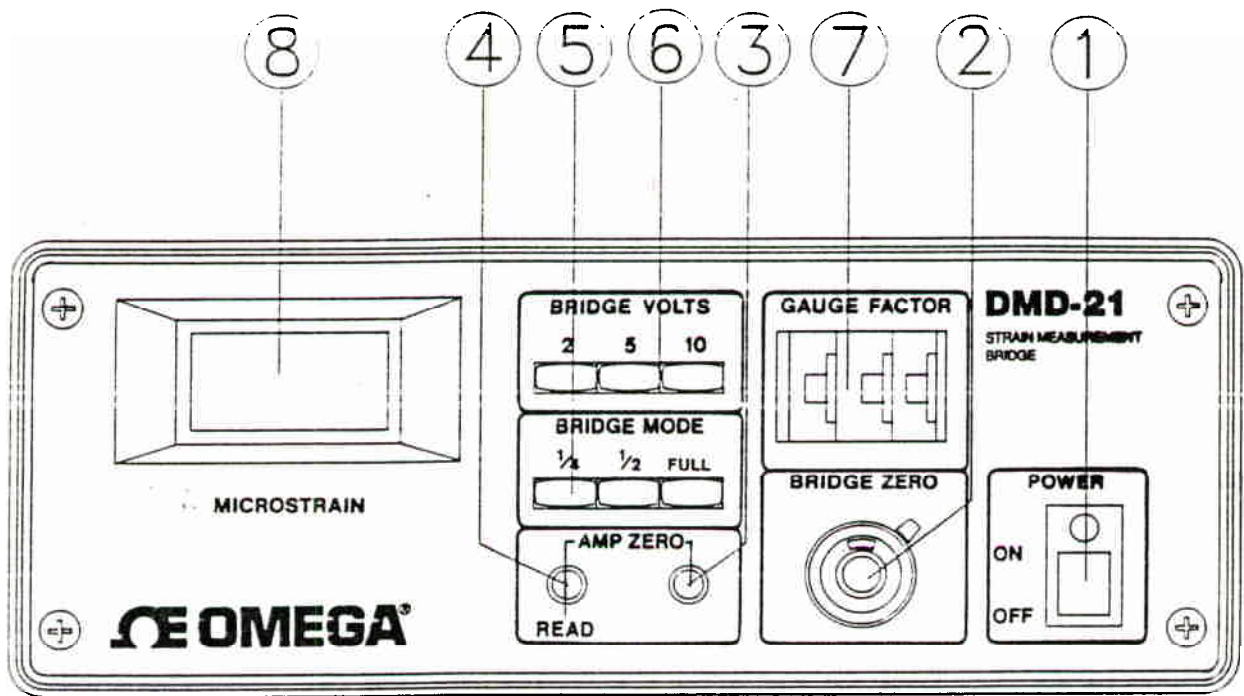
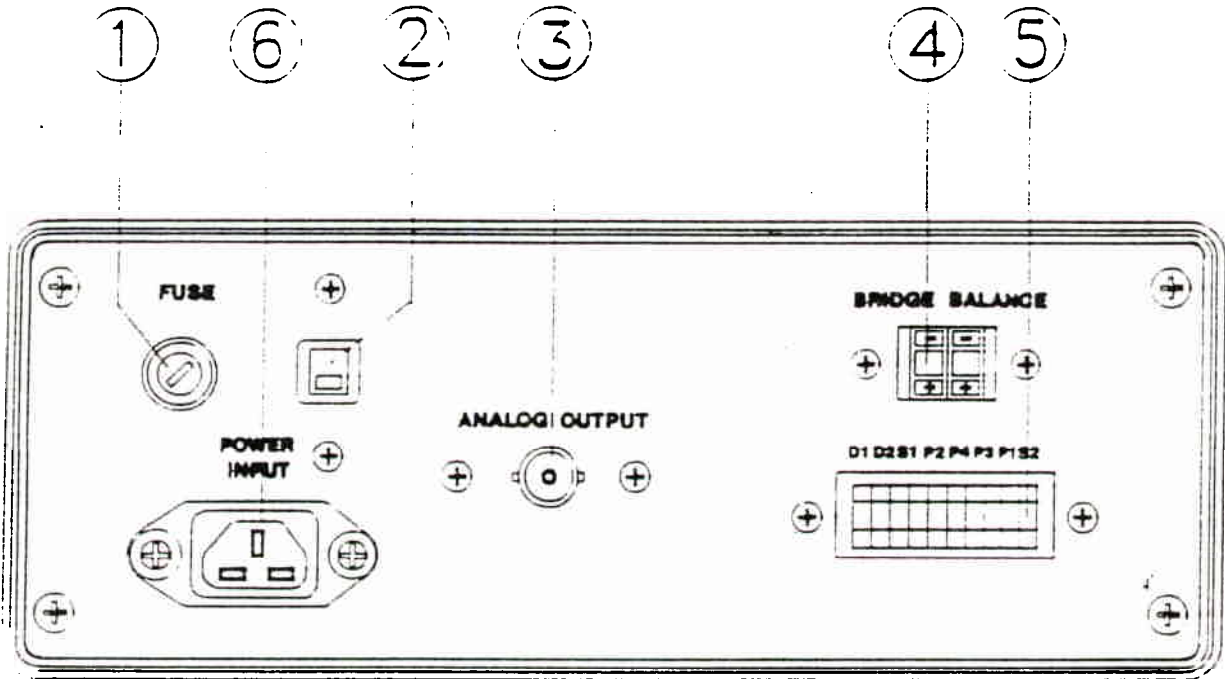

Figure 3-1. Front of the DMD-21
Figure 3-2. Rear of the DMD-21
The OMEGA DMD-21 Digital Strain Indicator, which operates on either 115VAC or 230VAC, is a single input meter which may be used for  $\frac{1}{4}$ ,  $\frac{1}{2}$ , or full bridge inputs. Readings are given directly in microstrains on the  $4\frac{1}{2}$  digit display. The front panel gage factor dial covers the range of gage factors likely to be encountered in use, but gage factors outside this range maybe easily accommodated by setting the gage factor to 2.00 and calculating the strain (see Section 4). A Precision Two-State Zero Adjustment is provided ensuring ease of zero setting together with ease of re-setting for subsequent tests. An analog output is provided on the rear panel for connection to a recorder. Refer to Figure 3-2 in Section 3.2.
Figure 3-1 shows the front of the DMD-21. Following the figure is a description of each part of the strain indicator.
Figure 3-2 shows the rear of the DMD-21. Following the figure is a description of each part of the strain indicator.
1. Make sure the Voltage Selector Switch (Figure 3-2, #2) is set to the appropriate voltage for your country.
5. Set front panel switch Figure 3-1, #4 to Amp Zero and adjust adjacent zero screw (Figure 3-1, #3) until you see 0.00 on the digital display then set switch to the "READ" position and adjust for zero on the display by using the Coarse Zero control (Figure 3-2, #4) at the rear of the instrument and the Bridge Zero knob (Figure 3-1, #2) on the front panel. When you have zeroed the instrument lock the control in place using the black outer knob. If further readings are to be taken at a later date, record the setting of the Bridge Balance Number and the Bridge Zero Dial. Record Values here: \_\_\_\_\_ (front); \_\_\_\_\_ (rear).
6. For dynamic measurements, the signal available at the BNC socket (Figure 3-1, #3) on the rear panel may be connected to an amplifier or a Recorder. The output at this socket is 0 to  $\pm 2$  volts which is equivalent to  $\pm 20,000$  microstrain. The frequency response is DC to 20 kHz.
- c. Set the gage factor dial (Figure 3-1, #7) to 2.00.
- d. Set front panel switch to amplifier ZERO (Figure 3-1, #4) and adjust ZERO Screw (Figure 3-1, #3).
- e. Set front panel switch to READ (Figure 3-1, #4) and adjust rear panel and front panel zero knobs (respectively Figure 3-1, #2 and Figure 3-2, #4) until zero is shown on the Digital Volt Meter.
- f. Apply load to Transducer and note reading on the display (Figure 3-1, #8). 2,000 microstrain on the display indicates a signal of 1.0 millivolt per volt.
2. Select the correct bridge mode (Figure 3-1, #5) on the front panel.
3. Select bridge excitation voltage (Figure 3-1, #6) on the front panel.
4. Set the bridge zero (Figures 3-1, #2 & 3-2, #4) accurately. Refer to Step 5 in Section 5.1.
5. Set the gage factor dial to the gage factor for the gages in use, apply strain and note reading on the liquid crystal display (Figure 3-1, #8) on the front panel. Note that the range of the instrument is  $\pm 19999$  microstrain and therefore no range switch is required.